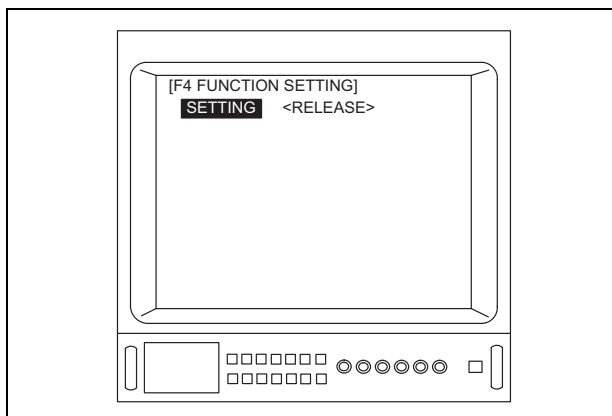

Figure 5.62
2. Depress the menu switch “↵” or the “Enter” key on the keyboard to adjust the “SETTING” (see Figure 5.62).